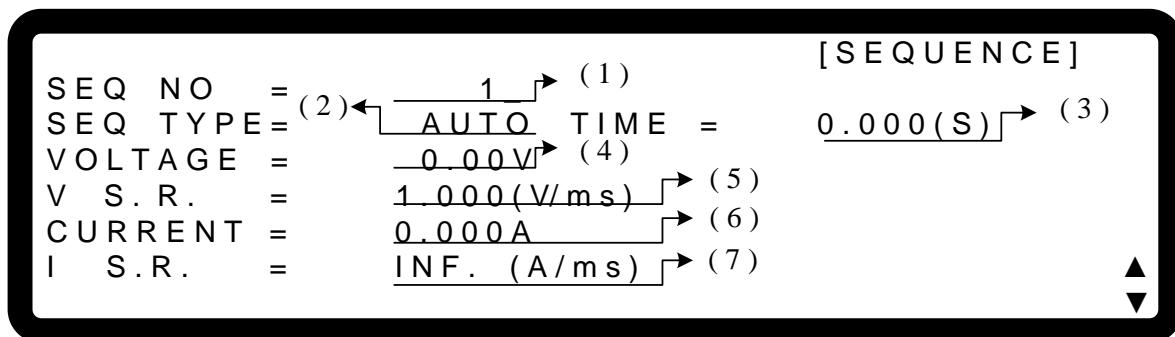

Figure 4-8
- a. In the PROGRAM page (Figure 4-3), if the PROGRAM has no SEQUENCE when the cursor is at (5), pressing “” will add a new SEQUENCE. The page will skip to Figure 4-8.
- b. When the cursor is at (7) in Figure 4-8, press “” to add a new SEQUENCE.
3. Use the “”, “” keys to move the cursor to the column to be set as shown in Figure 4-8.
1. Use the “”, “” keys to move the cursor to the column to be set as shown in Figure 4-8 (1).
2. When the cursor is at Figure 4-8 (7), press “” to add a new SEQUENCE. The numeric keys **0** - **9** or the “Rotary” () knob can also be used to set the value and return to the previously set Sequence Number.
1. Use the “”, “” keys to move the cursor to the column to be set as shown in Figure 4-8 (2).